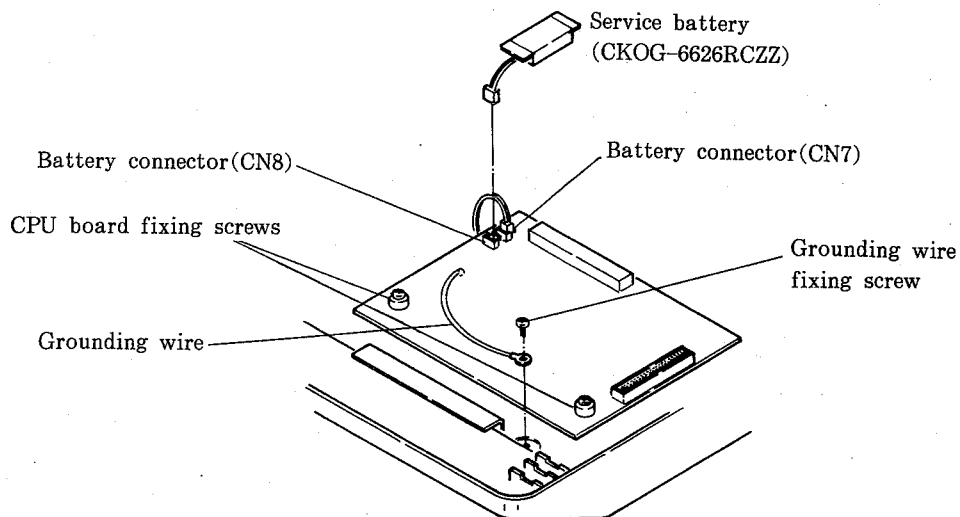

Fig.16
- (7) Disconnect all the connectors on the CPU board except the service battery. (Be careful not to disconnect the service battery.)
- (8) Remove the CPU board fixing screws (2 pcs.) and the grounding wire fixing screw (1 pc.), and remove the CPU board from the lower cabinet. (See Fig.16 above.)